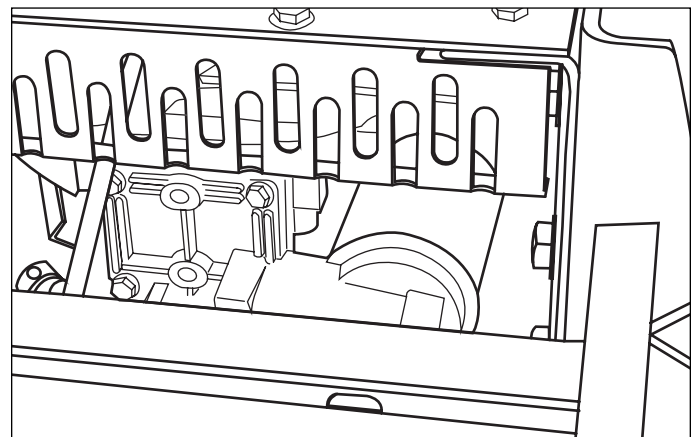

Figure 32. Transmission Oil Filter Location
2. Place a drain pan under each transmission and remove the filters to drain the oil. See Figure 32.